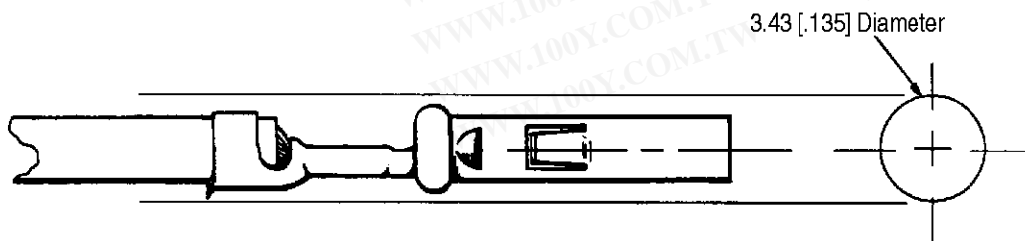

Figure 5
1. Crimped insulation barrel shall fall into an area defined by a 3.43 [.135] diameter circle whose center is the centerline of the contact as shown in Figure 5.